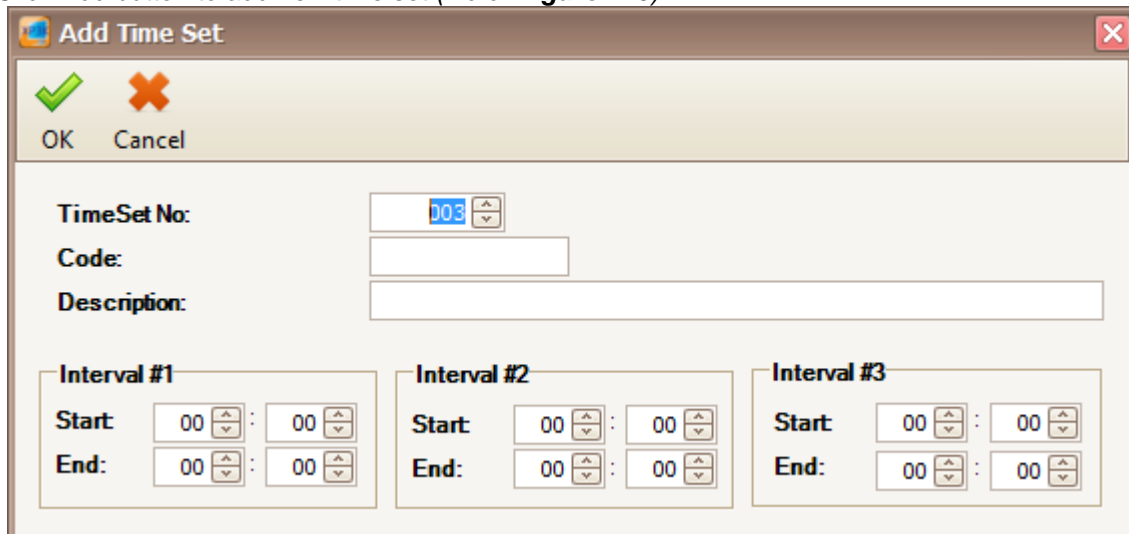

Figure 170 - Add Time Set
3. Click Add button to add new time set (Refer **Figure 170**).